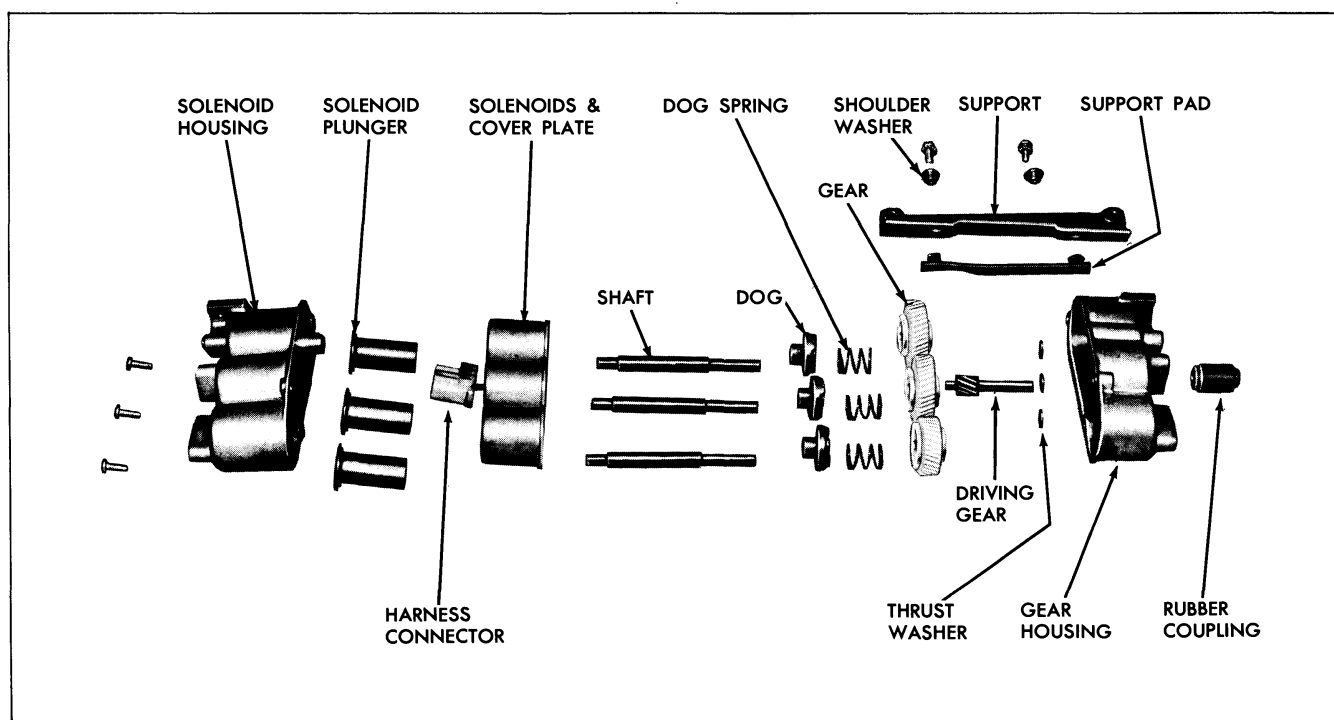

Fig. 8-9 Six-Way Seat Transmission Parts
1. With transmission removed remove screws securing gear housing to the solenoid housing; then, carefully separate housings and remove component parts of transmission (Fig. 8-9).